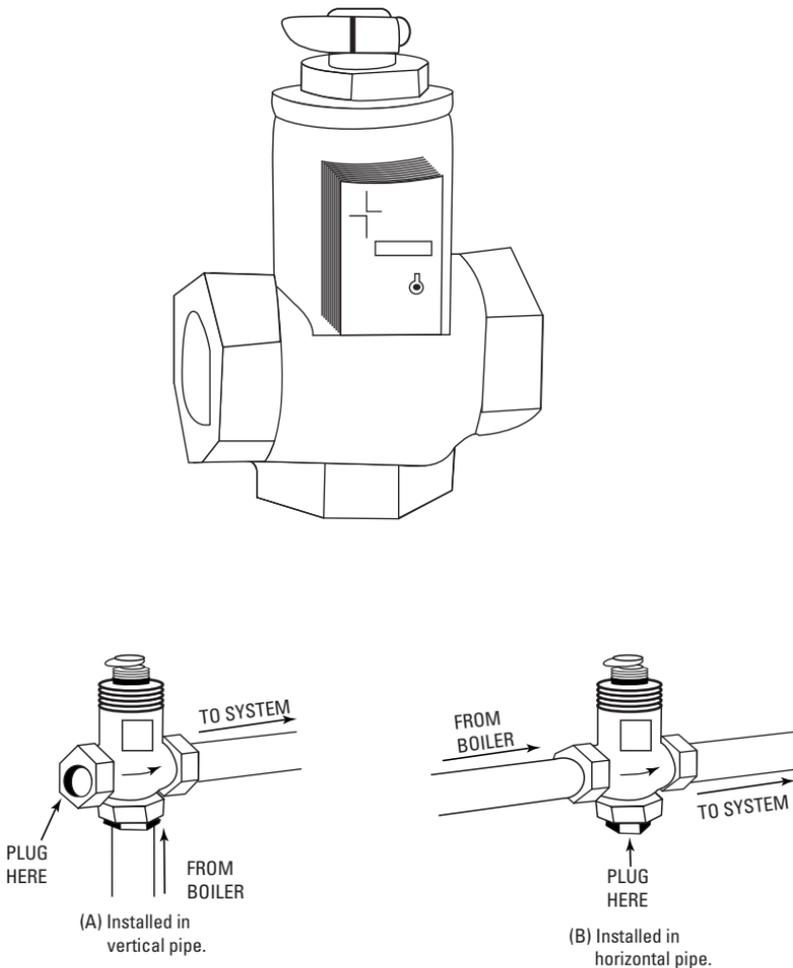

Figure 10-61 Flow control valve. (Courtesy ITT Bell & Gossett)
A flow control valve is used (1) to prevent gravity circulation in a hydronic heating system when the circulator is not operating and (2) to permit the summer/winter operation of an indirect water heater. As shown in Figure 10-61, a flow control valve can be installed in either a vertical or horizontal position. Either location will require that it be installed with the arrow on the valve body facing the direction of flow.